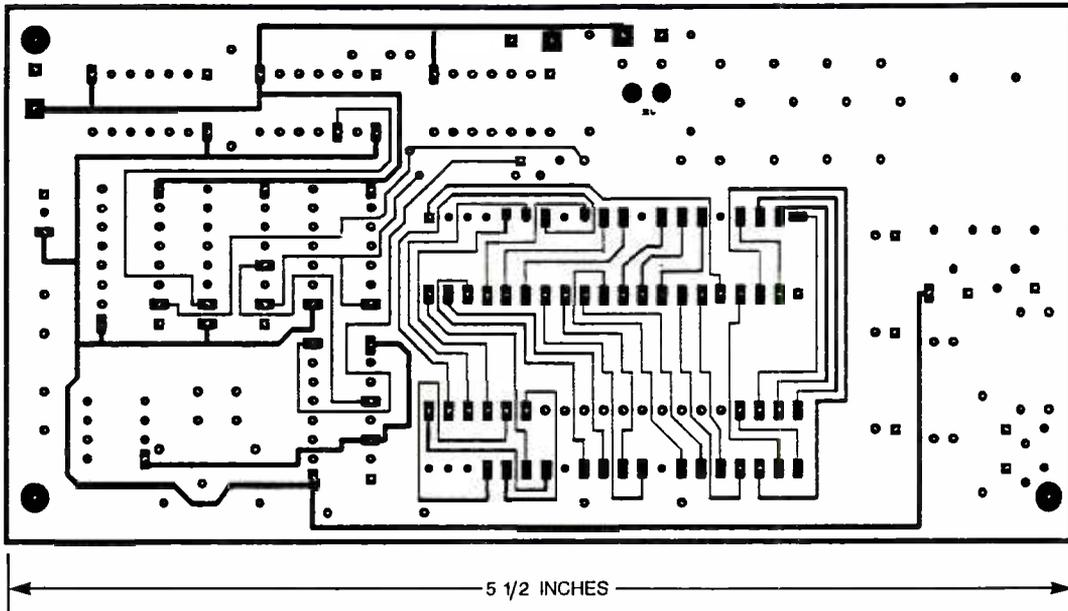

Fig. 3. Here is a full-size template of the component side of the board.
**Circuit Construction.** The Auto-Ranging Digital Capacitance Meter was assembled on a double-sided, printed-circuit board measuring about 5½ by 2⅓ inches. A full-size template of the foil side of the board is shown in Fig. 2, and of the component side in Fig. 3.